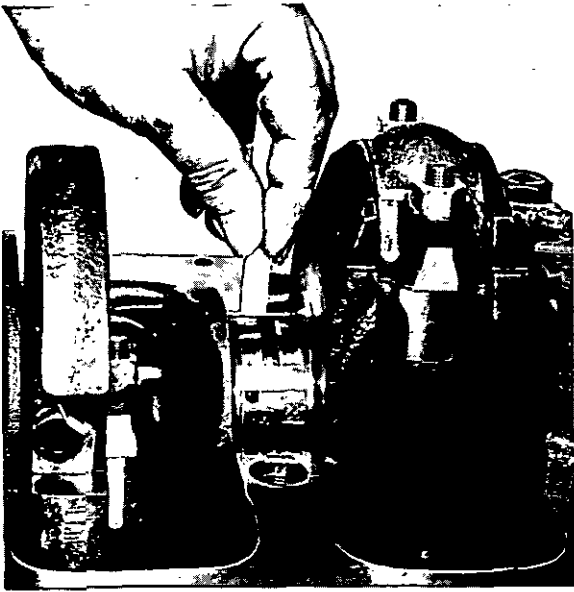

Fig. F.1
5. With a suitable piece of wood push out top half of bearing by rotating it on crankshaft, applying tool to side opposite bearing lip. (See Fig. F.1). Locating lips are on camshaft side of engine.